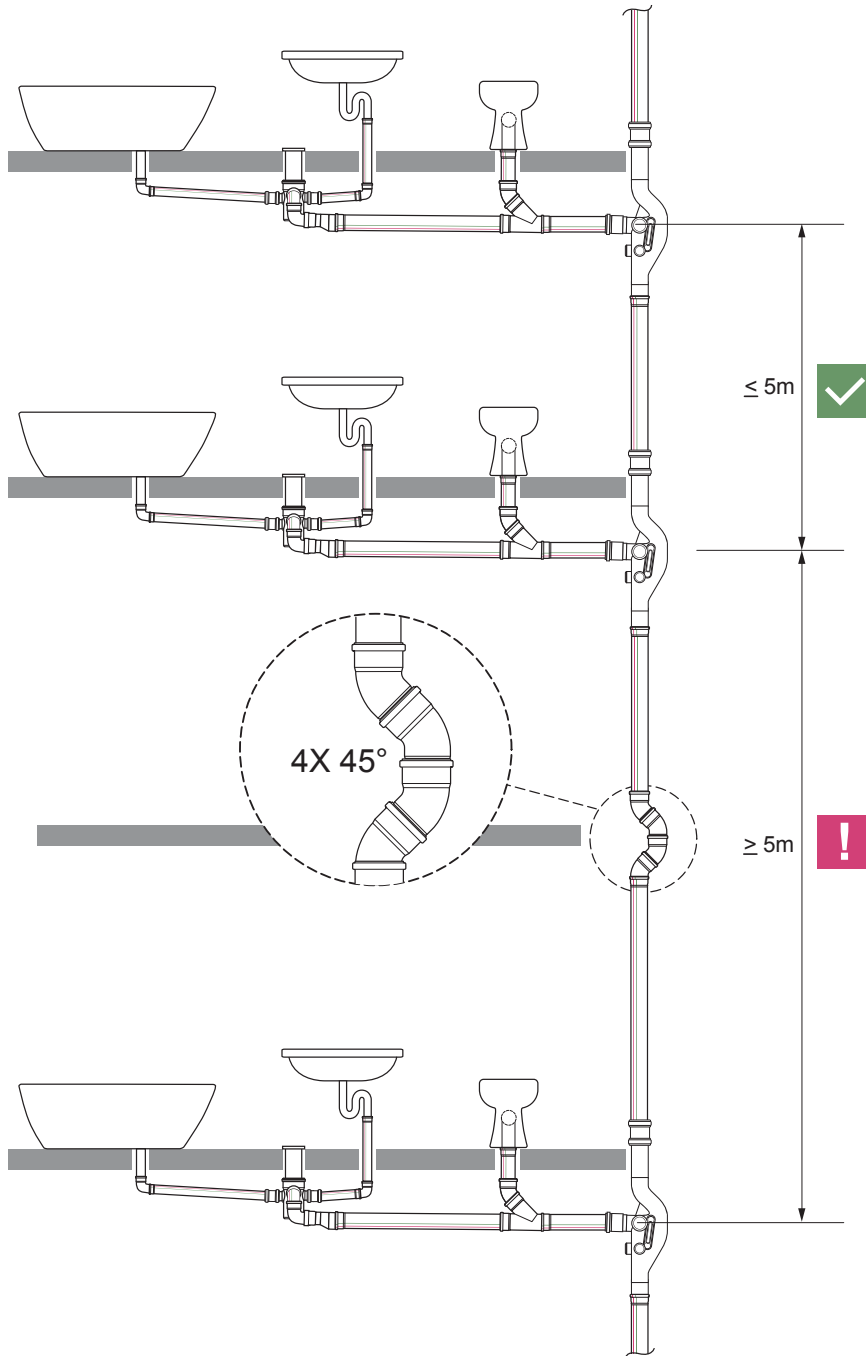

Figure 2.4 Required location of RAUVENT fittings and Double Inline Offsets.
- The vertical distance between 2 RAUVENT fittings must not be more than 5m. Should the distance be more than 5m, a Double Inline Offset must be installed in between the RAUVENT fittings to maintain this 5m distance. A Double Inline Offset consists of four 45° bends as shown in Figure 2.4.